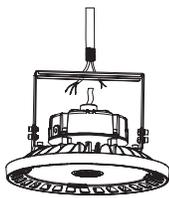

Fig. 9.1
2. Insert 1/2" NPT stem into the bracket hole. (Fig. 9.1/9.2)